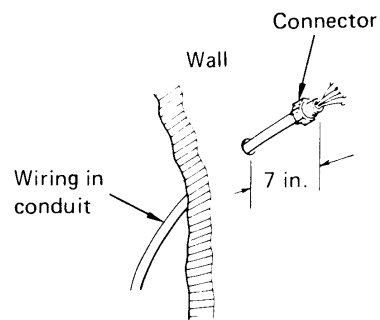

Fig. 13
- a) Insert the interunit wiring (according to local codes) into through-the-wall PVC pipe. Run the wiring toward indoor side allowing approx. 7 in. from the wall face. Fig. 13